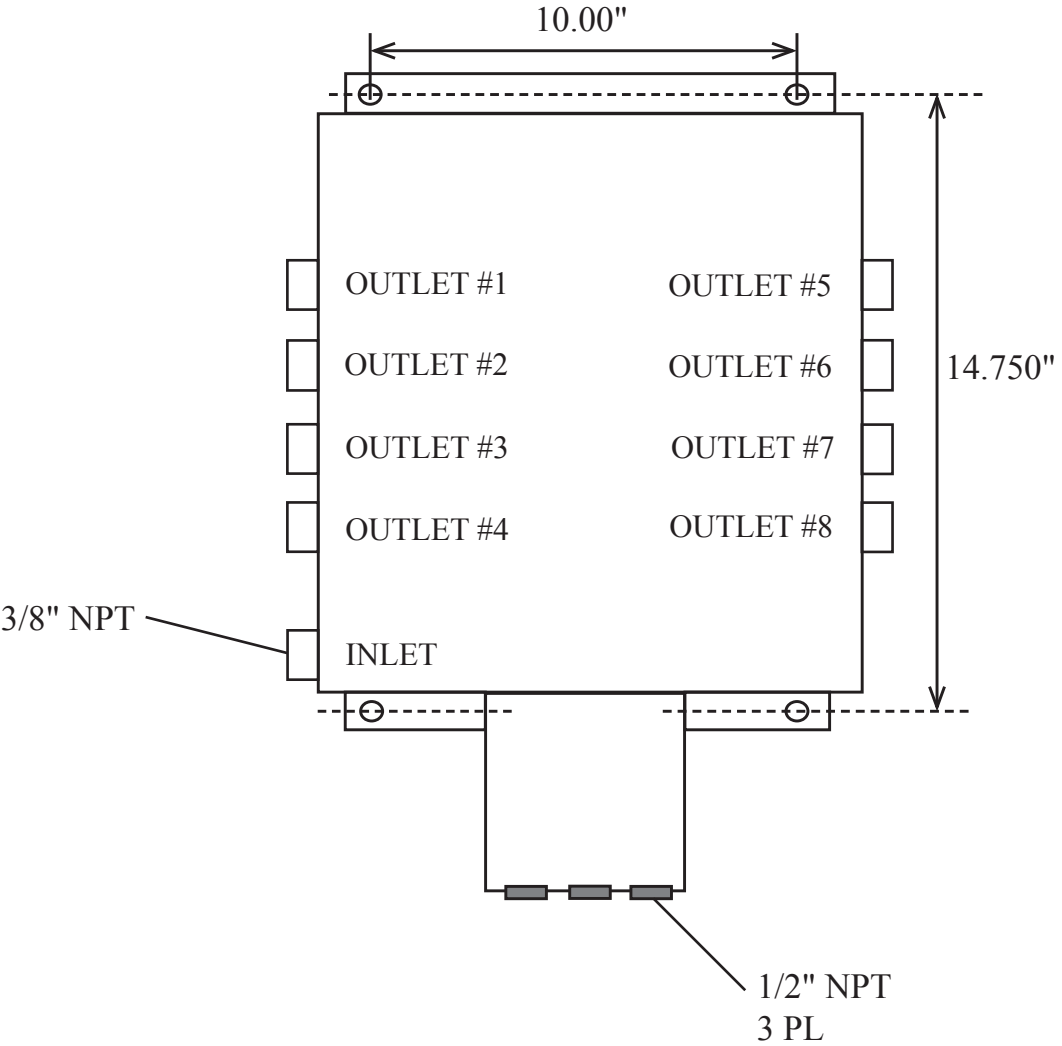

Figure 5
STEP 1. Mount the 5016 Controller (Figure 5) in a vertical position near the air source, power source, and other above ground controls if possible. **CAUTION:** The 5016 Controller is NOT intrinsically safe. Do not use in a CLASS I hazardous area.